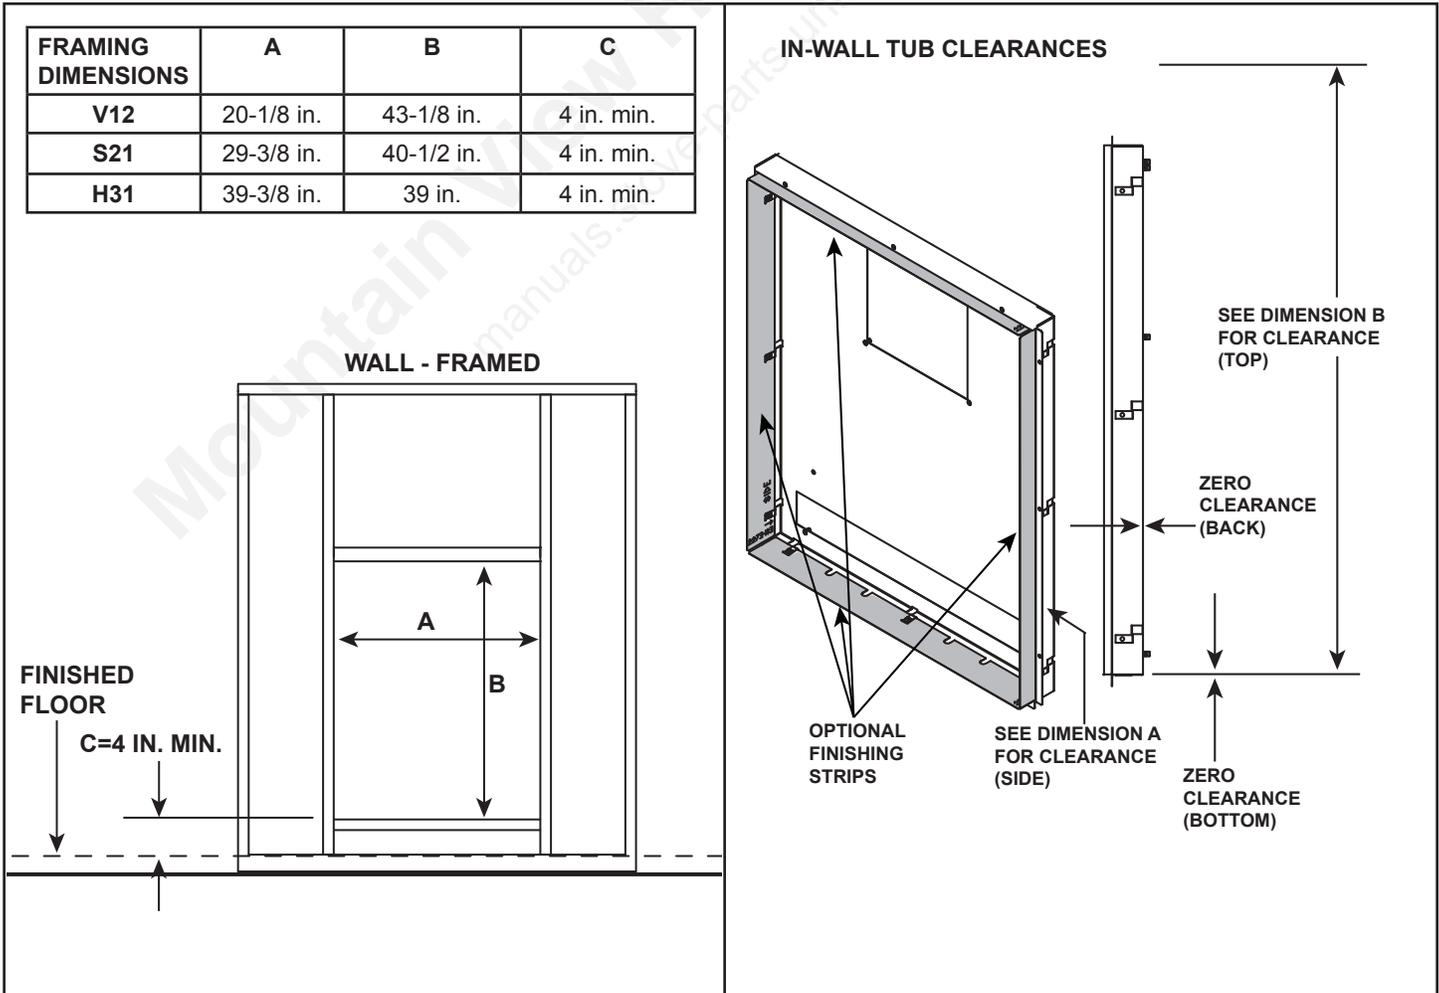

Figure 11.1 Framing Dimensions and In-Wall Tub - Clearances
1. Prepare 2 in. x 6 in. framing as shown in Figure 11.1.